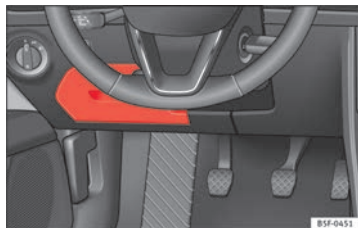

Fig. 181 On the driver-side dash panel: fuse box cover
- *Opening*: fold the cover down ⇒ Fig. 181.